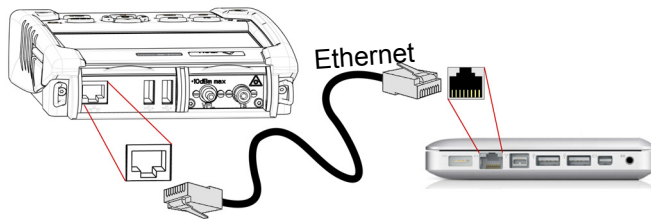

Figure 46 Ethernet Connection 2000 Platform <-> PC
- 1 Make the 2000 Platform / PC connection as described Figure 46 on page 98.